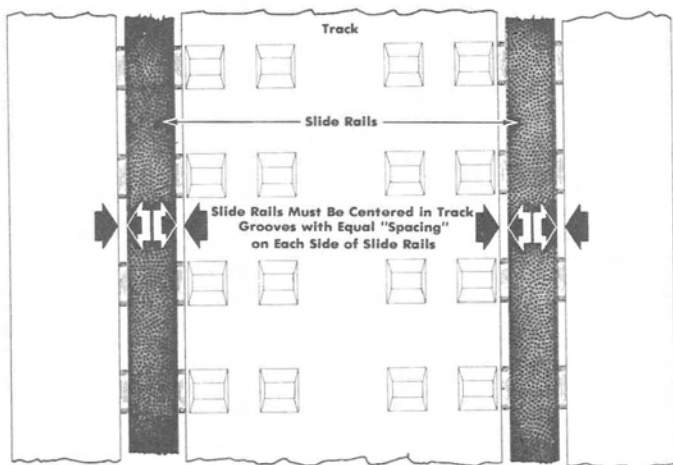

Figure 14. Checking Track Alignment
3. STOP the SNOWMOBILE ENGINE. Check position of rails in track grooves. Rails **MUST** be in center of track grooves with equal spacing on each side of rail between rail and track. (Figure 14)
5. As a final track alignment check, it is recommended that the snowmobile be run over smooth terrain and in a straight line for approximately 100 yards. STOP the SNOWMOBILE ENGINE. With track on ground, recheck track alignment as shown in Figures 14 and 15. If further track adjustment is necessary, refer to Step 4, preceding.